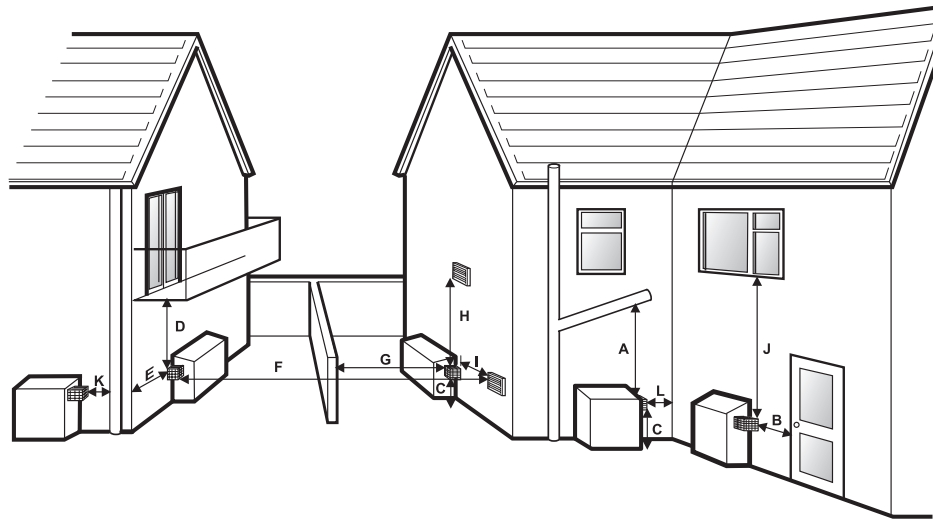

Fig. 7 - Clearances for flue terminals
- 3 The Module must be positioned such that the required clearances from the low level flue outlet, as shown in Fig. 7, are achieved.